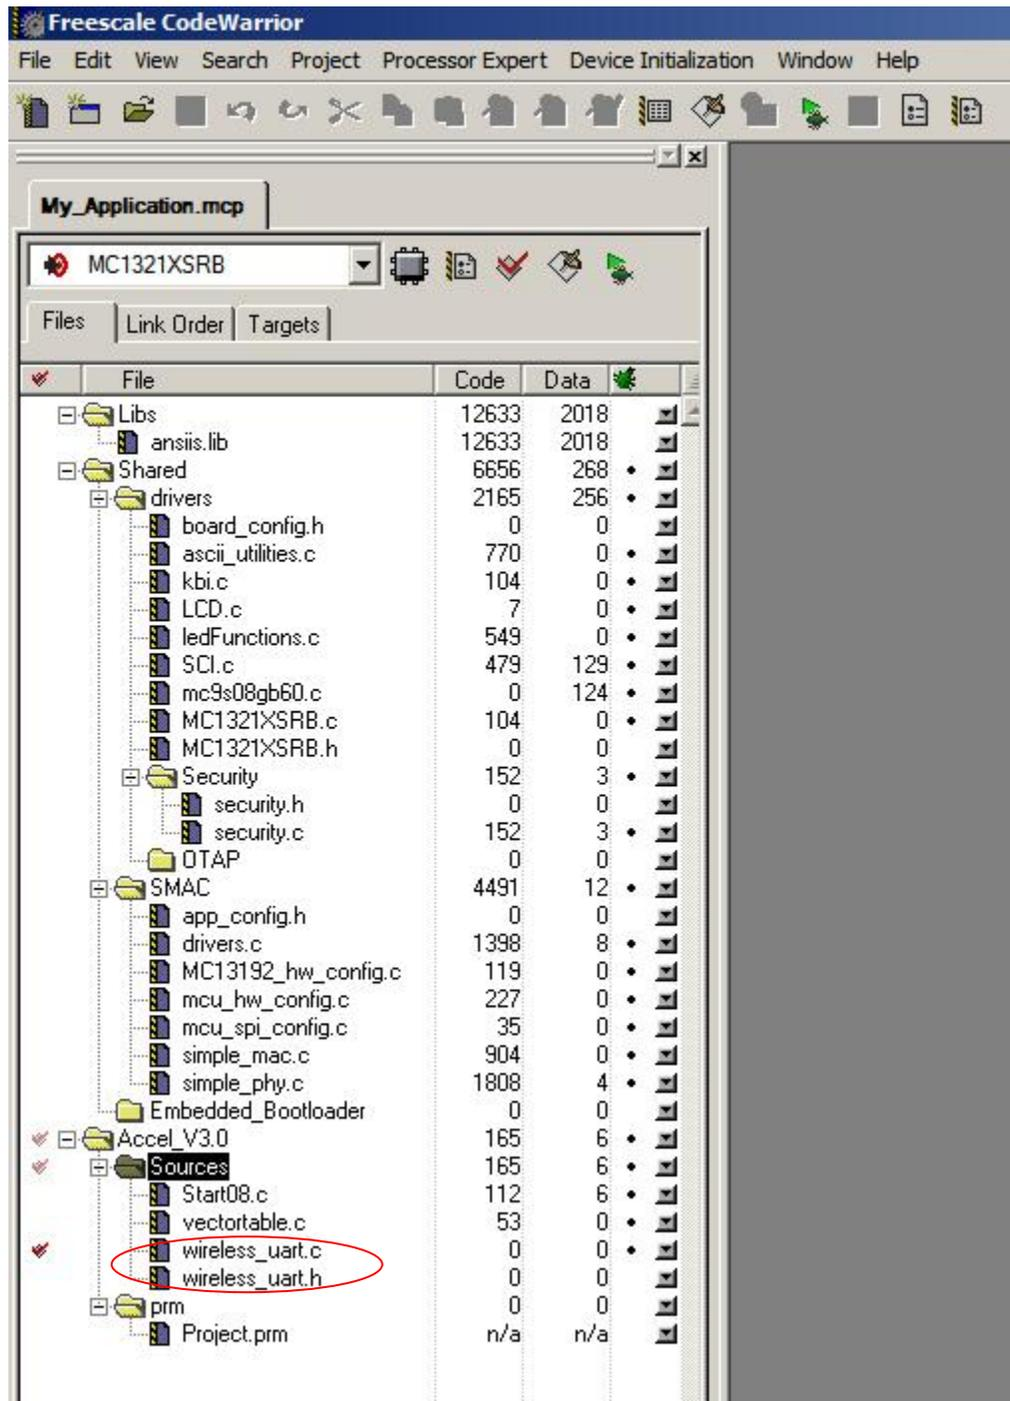

Figure 16. Adding the Wireless UART SMAC 4.1c files to the SMAC Codebase 1.0.4 Project
7. Add all user application source and header files (for this example, the Wireless UART files) to the CodeWarrior project as shown in Figure 16.